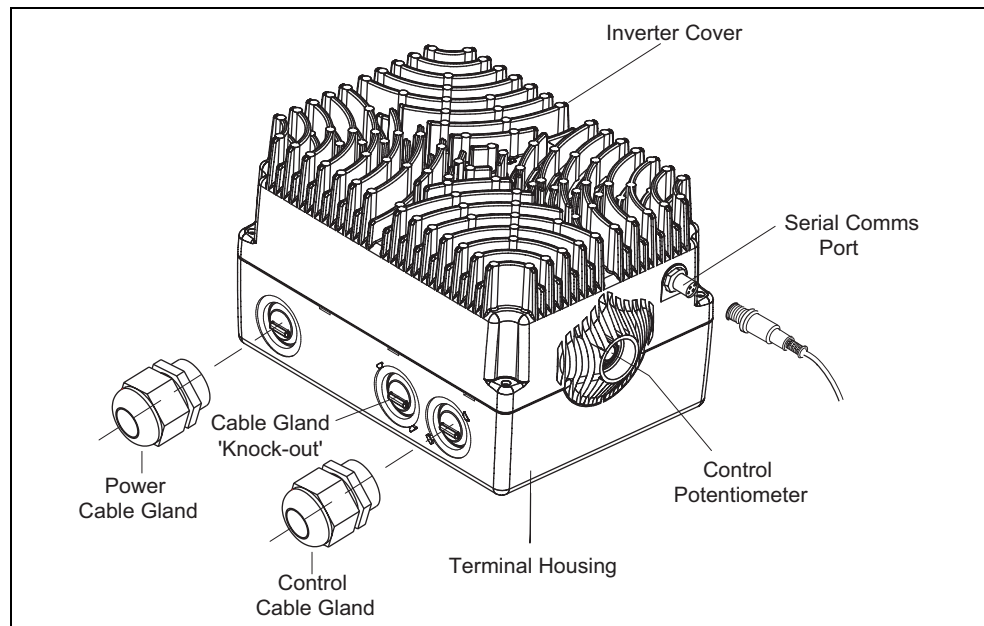
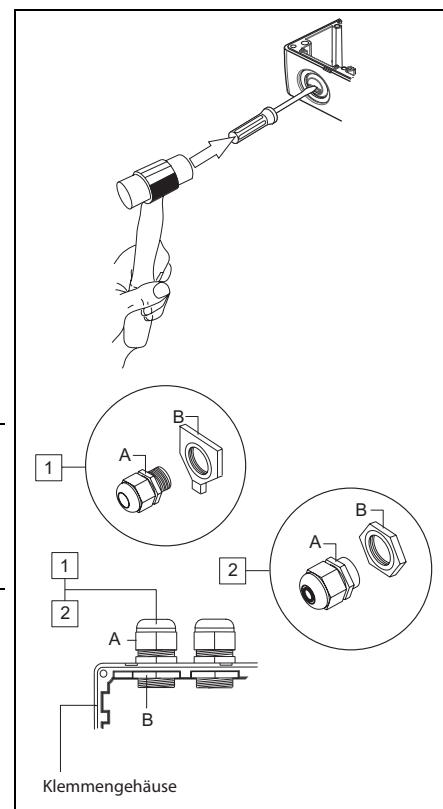

Figure 2-5 Cable Glands
Figure 2-6 Installation of Cable Gland
3. Remove the cable gland blanking plates (knockouts) as required (see Figure 2-6). The preferred gland arrangements are shown in the General Layout Diagram(see Figure 2-5).
1. Using a hammer and a flat-head screwdriver as shown in Figure 2-6 strike the gland plate or 'knockout' to obtain a clearance for the 25 mm cable gland.
3. After the knockout has been removed it should be safely discarded and the cable glands fitted as shown in Figure 2-6.